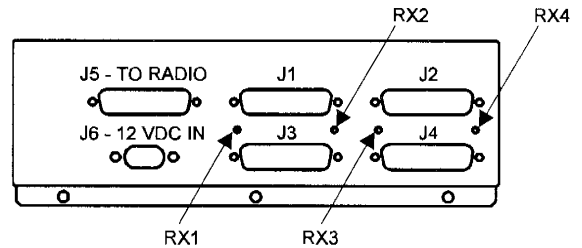

Figure A-4. Location of Potentiometer Adjustment Holes and Connectors
Step 1. Lead the cables of the external devices (up to four devices) to the rear panel of the CDT and connect them to connectors J1-J4 (refer to Figure A-4).